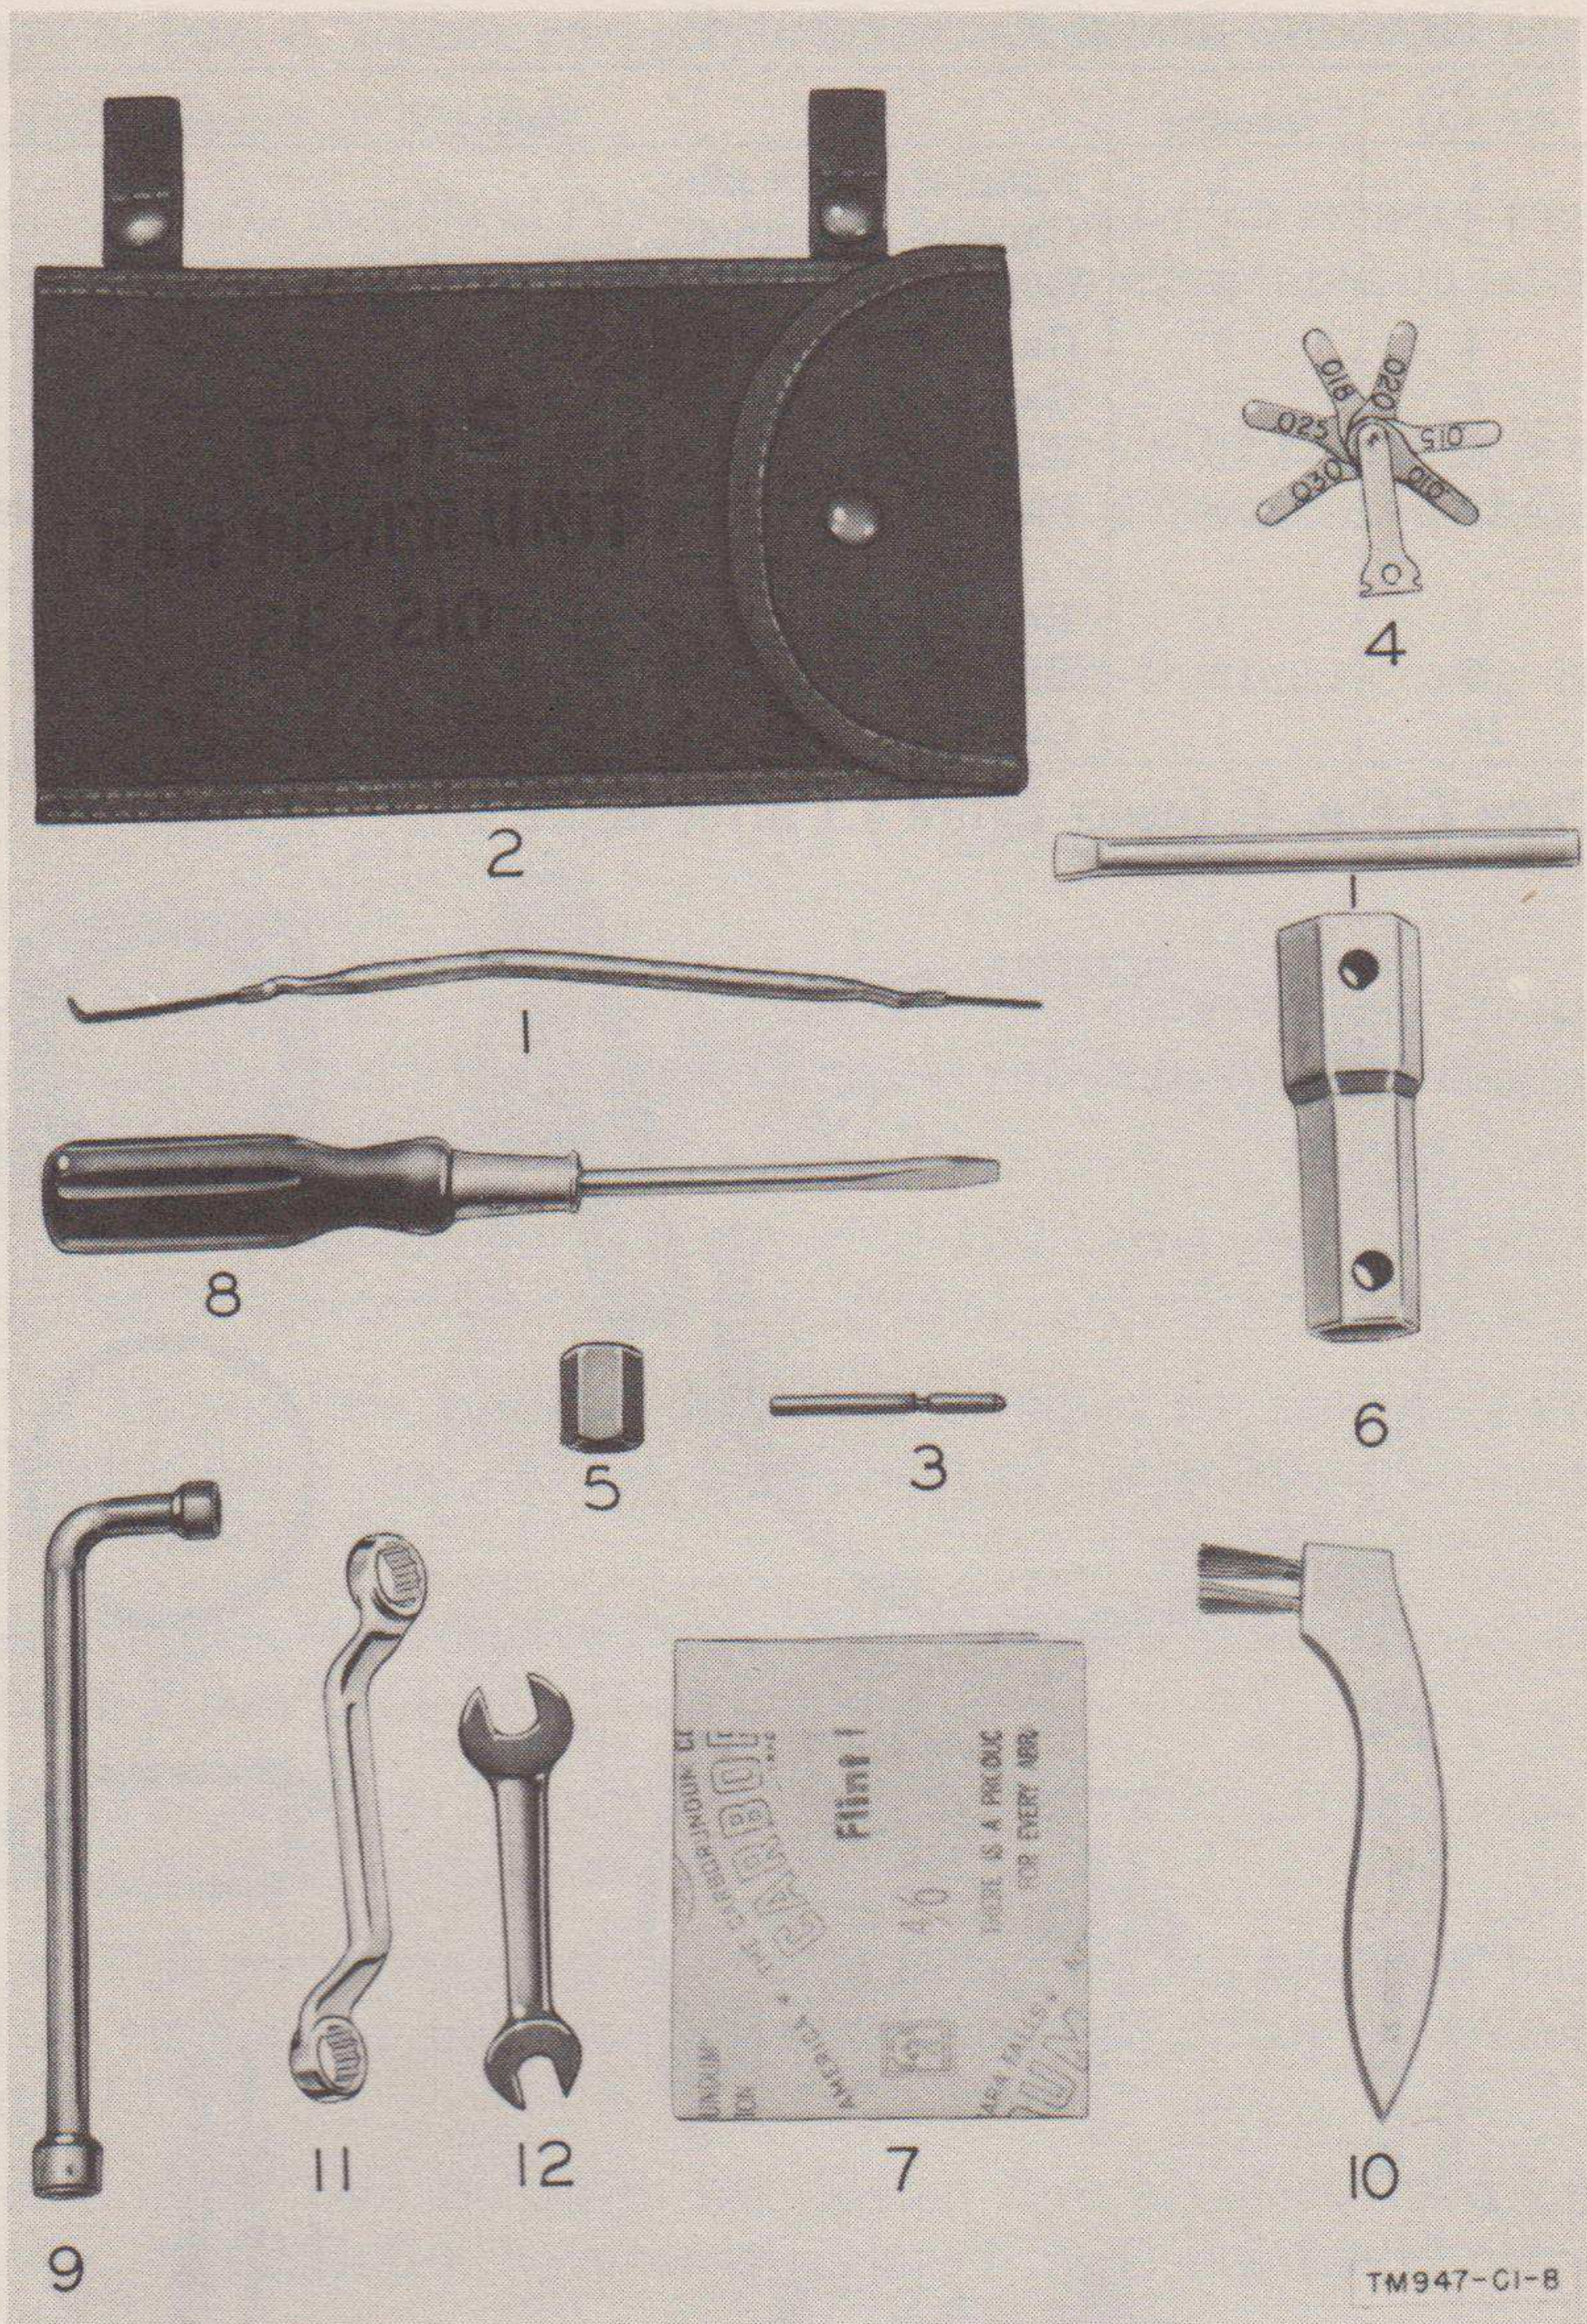

Figure 3.1. Power Unit PE-210-B, tools.
**Page 6. Par. 5.** Insert figure 3.1 after subparagraph *h*: